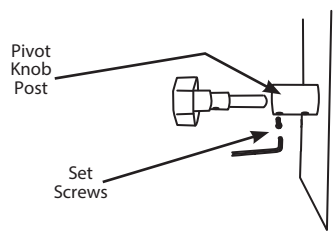

FIGURE 5
9. Tighten the second Set Screw under the Pivot Knob Post until it stops (make sure the Set Screw fits in the notch on the Pivot Knob shaft). Loosen the Set Screw ½ turn to allow the Pivot Knob to rotate freely (FIGURE 5).